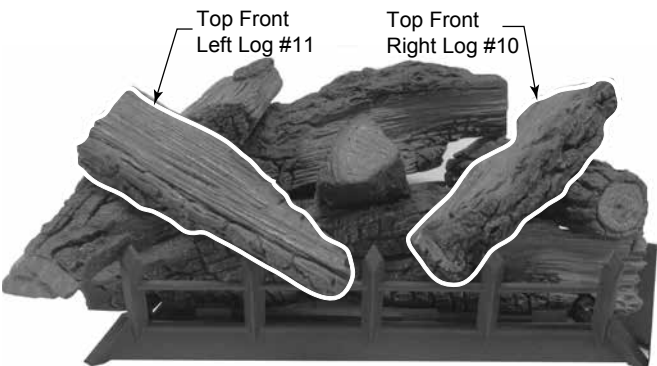

Figure 6.24 - Log #10 & #11 Placement
- Place top front right log (#10) onto mid right log (#6) by placing notch on bottom of log onto locating block on log #6. Rest bottom end of log onto grate bar. See Figure 6.24.
- Place top front left log (#11) onto mid left log (#8) by placing notch on bottom of log onto locating block on log #8. Rest bottom end of log onto grate bar. See Figure 6.24.